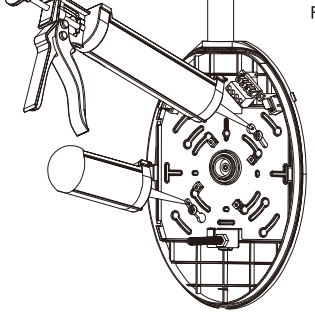

Figure 5
7. Set the desired color temperature and operating mode. Apply silicone sealant to all exposed areas to ensure proper weatherproofing (see Fig. 5).